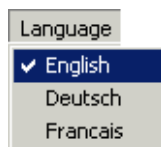

Figure 3-2: Language drop-down menu
- 2- Choose the working language from the drop-down menu in the top, left-hand corner of the window, as shown in Figure 3-2. The selected language is used by default the next time the VM600 MPS2 software is started: